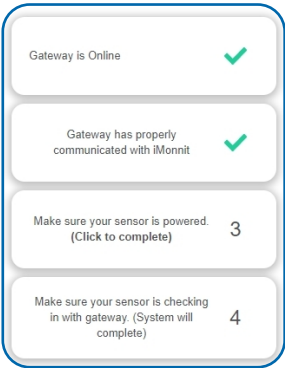

Figure 4
**Check your signal. See Figure 4.**